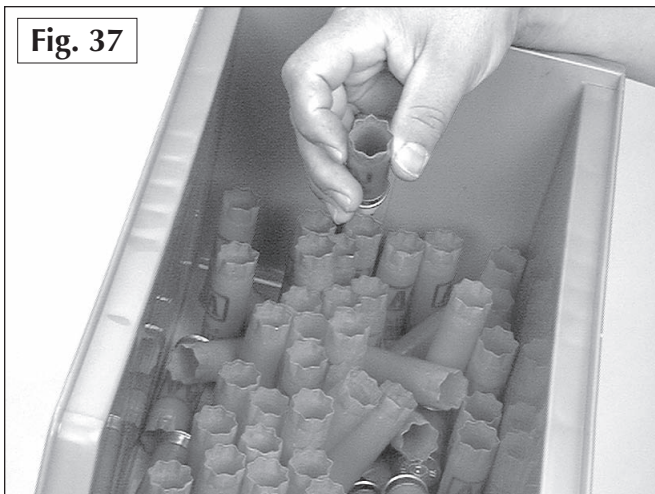

Fig. 37
1. Using a Dillon bin (#17125) or box, gather up to 80 empty, fired hulls. **Fig. 37**